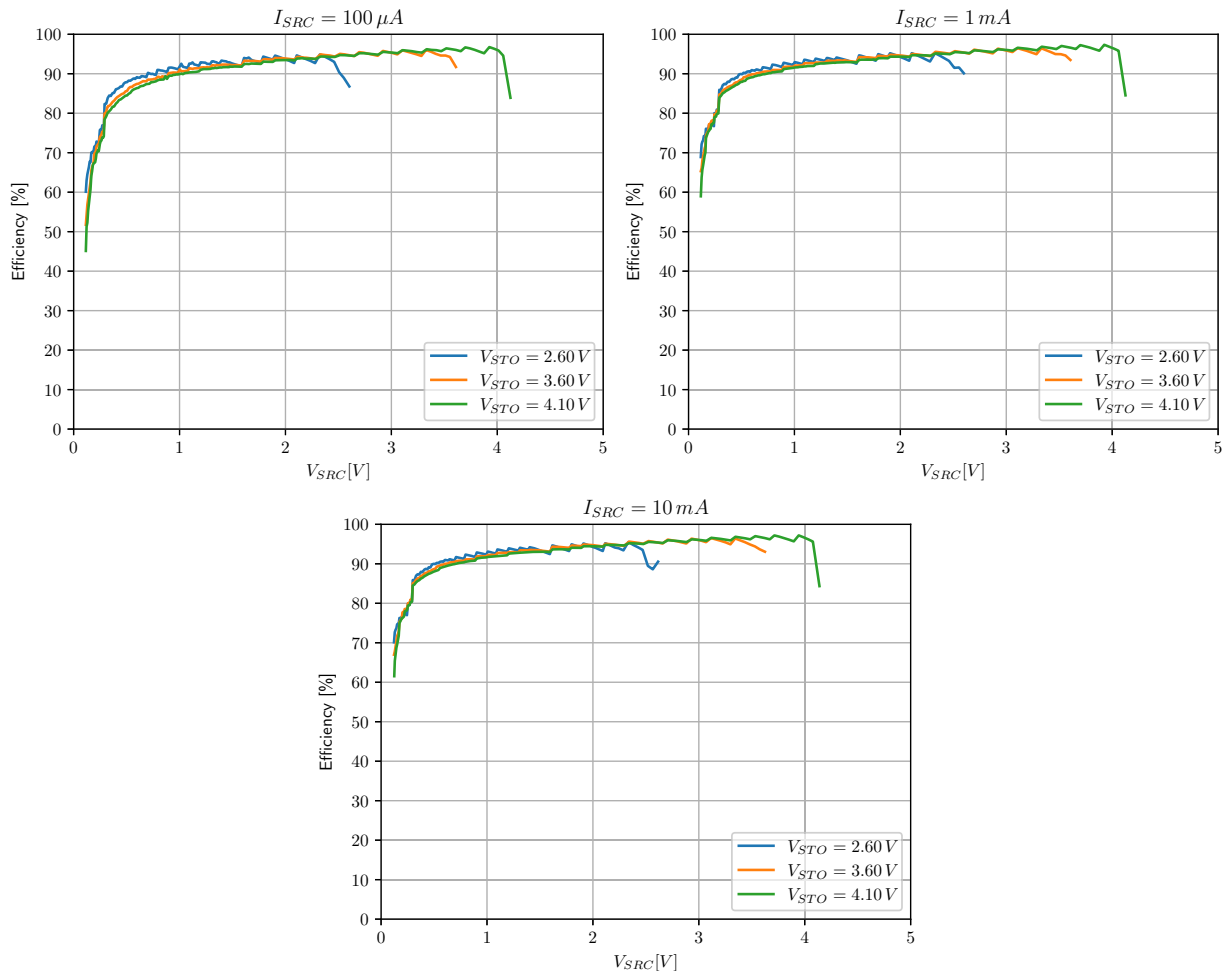

Figure 7: Boost converter efficiency with $L_{BOOSTx} = 33 \mu H$ (Coilcraft LPS4018-333MRB), $BSTxCFG.TMUL T = 0x02$ (x3)
- Optional: a device able to act as an I²C master and send I²C commands to the AEM13921. Only useful when testing settings that are not accessible through the configuration pins, such as boost timings. Please note that, the results shown on Figure 7 are with x3 boost timing, which is the default value when not configuring the AEM13921 through the I²C registers, but must be configured if the I²C is used.